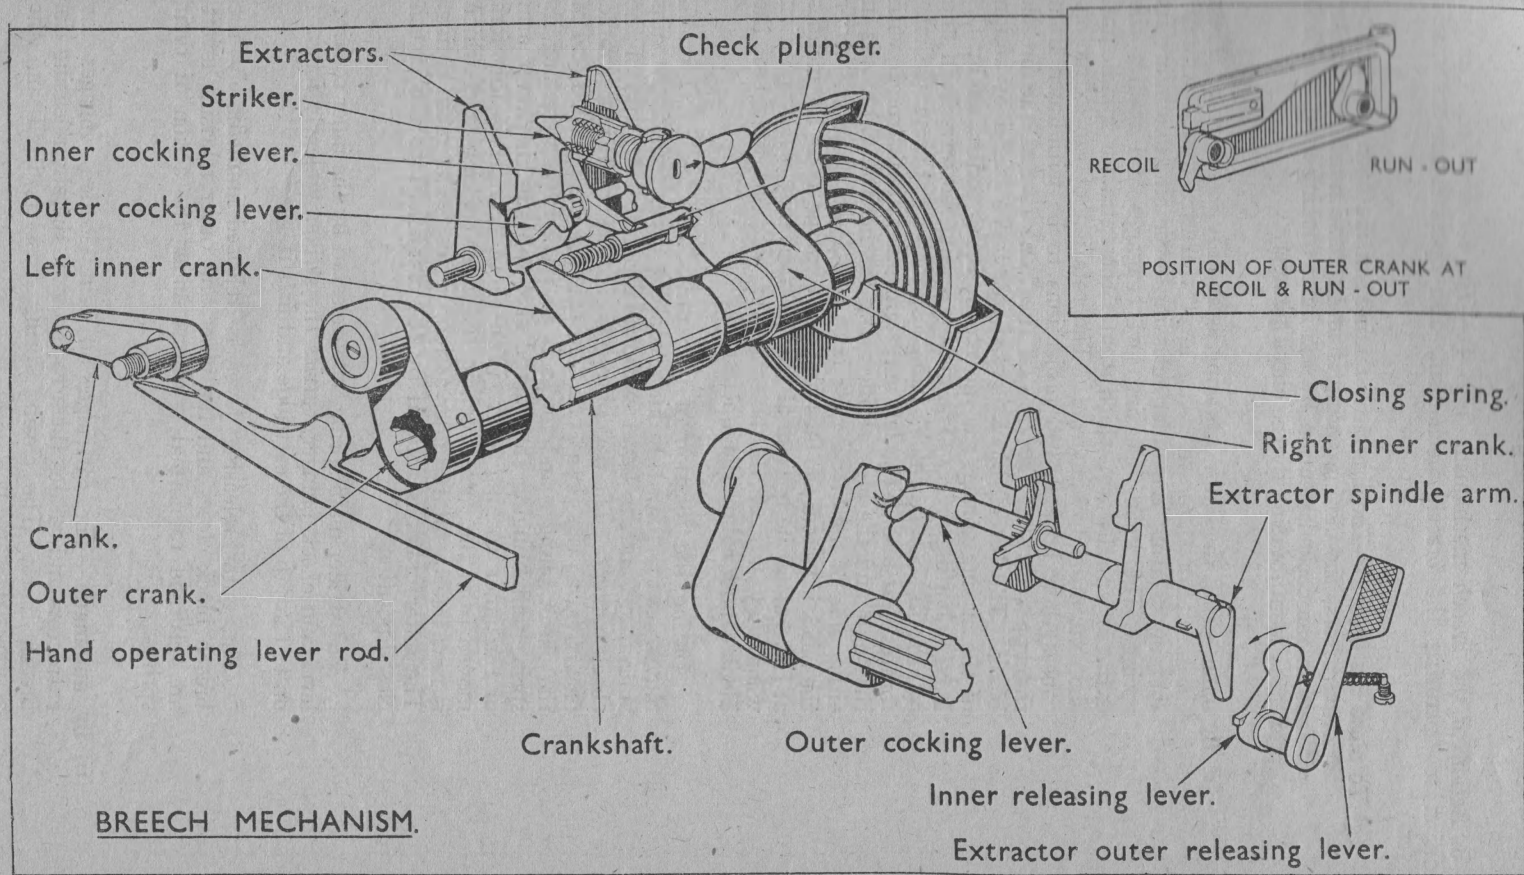

FIG. 4.
**6. Action of the breech mechanism** (Fig. 4).—The recoil of the gun, in addition to operating the breech mechanism, also operates an automatic loader.